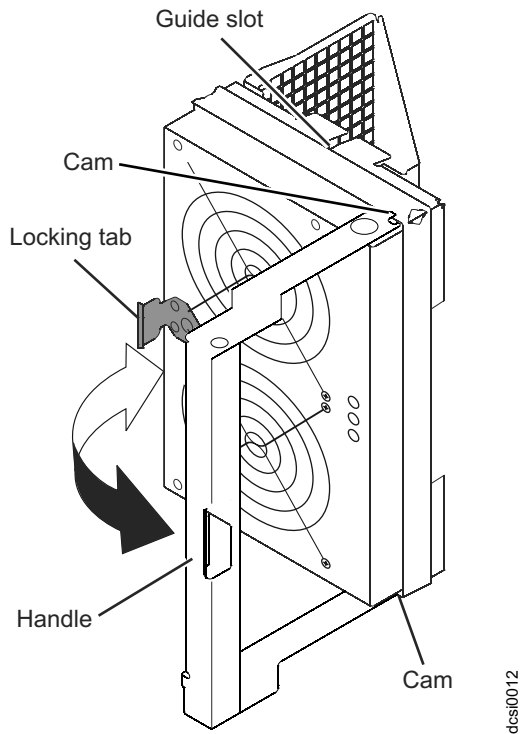

Figure 84. Removing a fan assembly
- a. At the rear of the storage expansion enclosure, remove the fan assembly (see Figure 84 on page 122) by pressing on the locking tab holding the fan assembly handle in place; then, pull the fan assembly handle toward you.